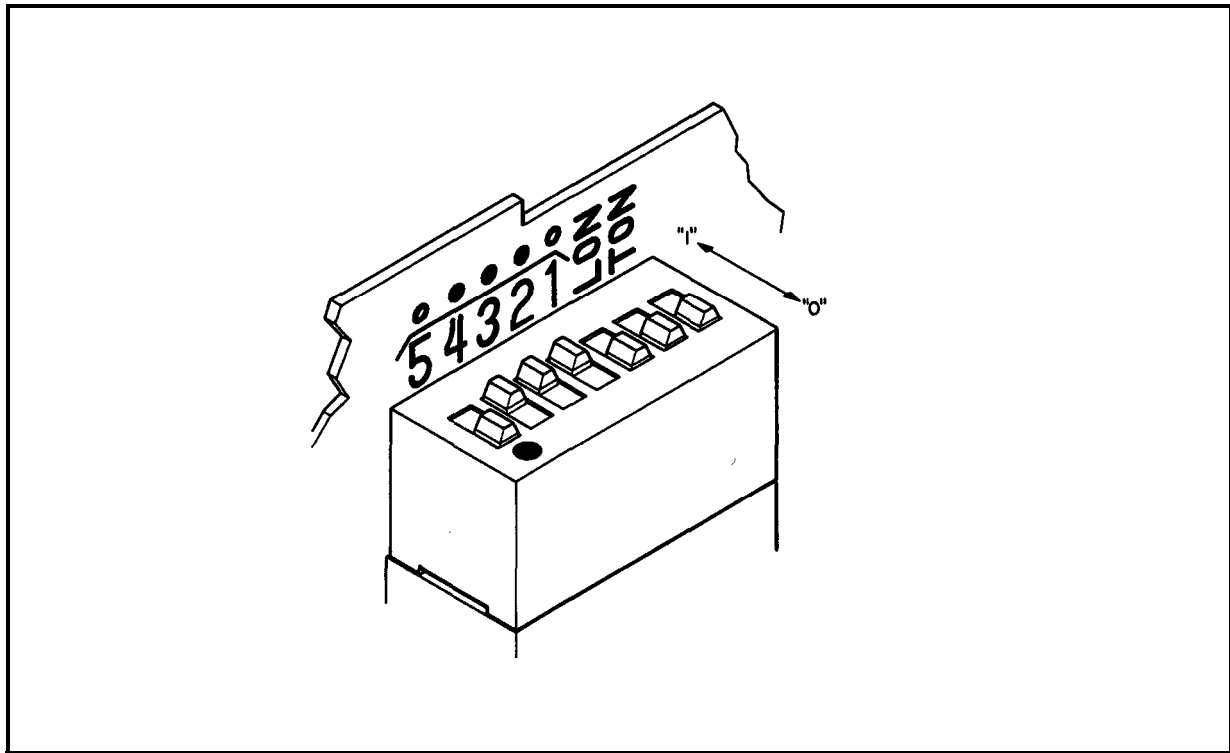

Figure 2-3. The HP-IB Address Switch Shown as Set by the Factory.
5. Use a pencil to set the switches to the desired HP-IB address and Talk Only (TON) or Listen Only (**LON**) condition. The switch is illustrated in figure 2-3. Facing the board, the **left** hand switch (marked with a "5") is the most significant address bit (A5 in table 2-1). Setting a switch toward the printed circuit board places it in its "1" position. If the TON and LON switches are both set to "1", the Talk Only setting will override. **If the** address switches and the TON switch are all set to "**1**", the Modulation Analyzer will output one byte (the status **byte**) each measurement cycle. (Setting all switches to "1" defeats HP-IB operation.)